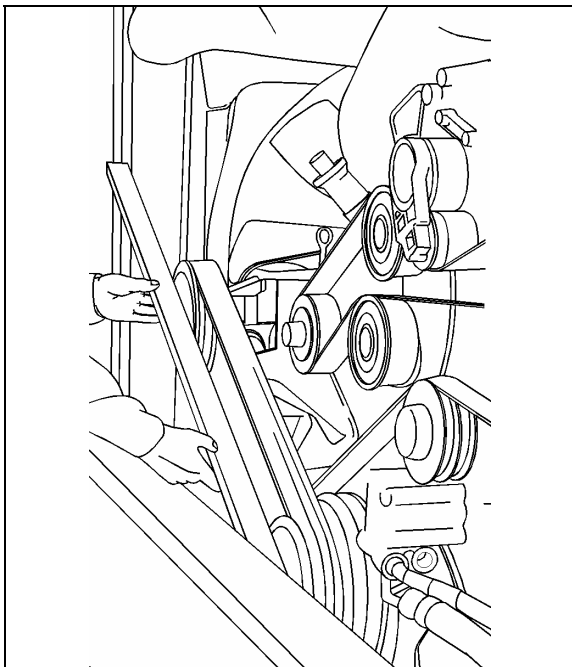

FIGURE 18: PULLEY ALIGNMENT 05064
- Using a straight edge, align the 3"V" pulley on gearbox central shaft pulley with engine pulley, while taking pulleys outer edge thickness under consideration i.e. 3"V" pulley's outer edge is thicker than that of engine pulley's (Fig. 18).